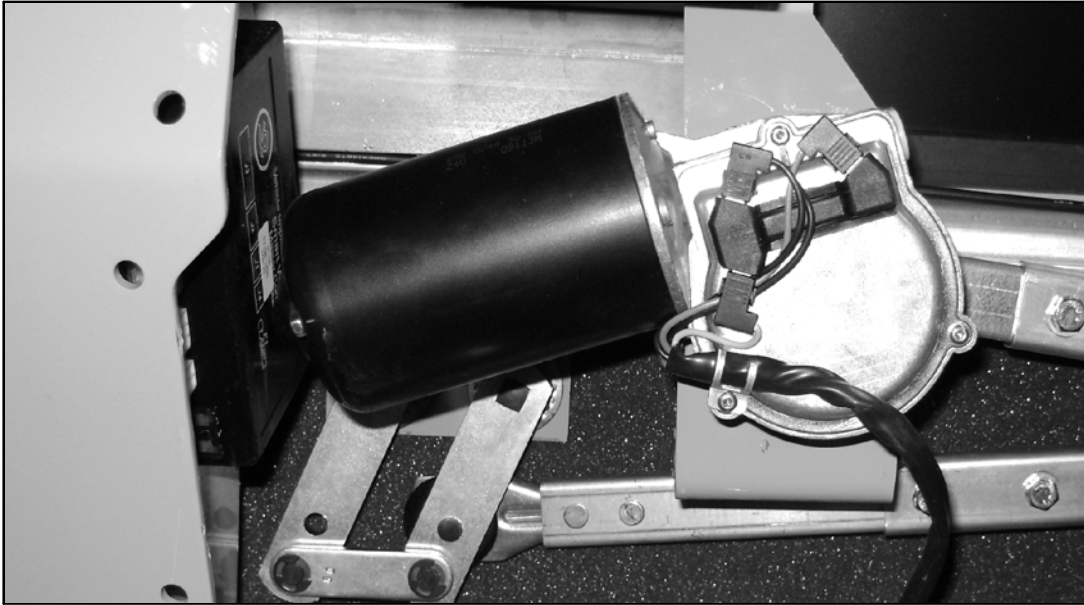

Figure 5. Windshield Wiper Motor
16. Locate the Doga windshield wiper motor on the RH (curbside) of the steering column bracket (refer to Figure 5).
17. Carefully disconnect the wiper motor harness (refer to Figure 5).